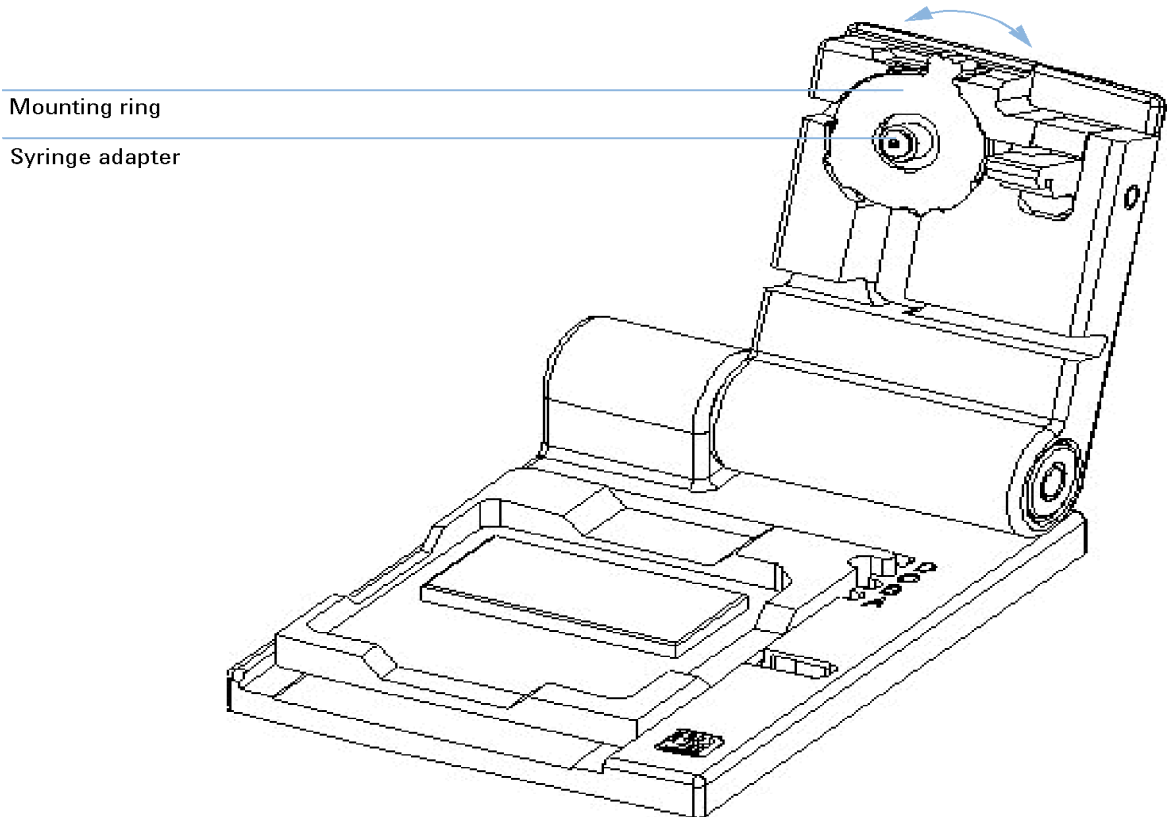

Figure 4 Mounting ring of the syringe adapter
- 2 Move the mounting ring holding the adapter in place to the left as shown in Figure 4 on page 165. The ring will come off.